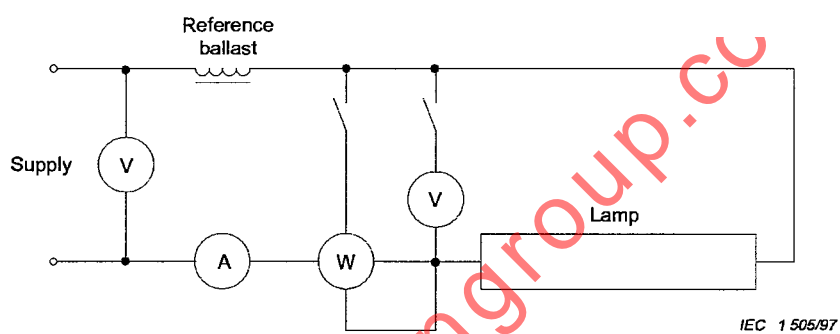

Figure B.2 – Circuit diagram for measurement of electrical and photometric characteristics for lamps with non-preheated cathodes
- figure B.2 for lamps having non-preheated cathodes;